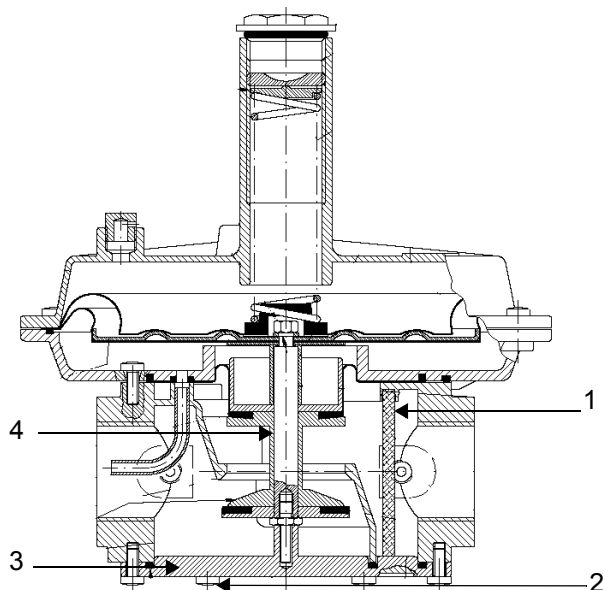

Fig. 9 - threaded body
To check the filtering part (1) on threaded bodies (see picture Fig. 9):
- remove the filtering part (1), clean it with water and soap, blow it with compressed air or replace it if necessary;
- reassemble the filtering part in its initial position checking that it is placed in its own slots (see picture Fig. 9);
- reassemble the bottom cover (3), being sure that the main bolt is centered in the bottom cover slot.